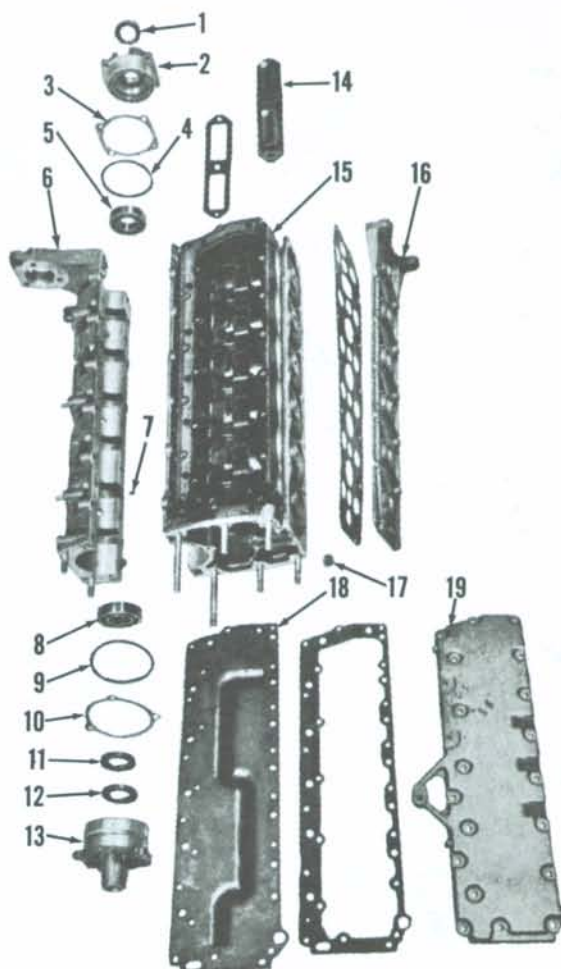

Fig. M7-25—Exploded view of crankcase and associated parts used on six cylinder models. Four cylinder models are similar.
Remove the upper and lower crankcase end caps by using a suitable puller attached to threaded holes in caps. Remove the main bearing locking bolts from front crankcase half, remove the flange bolts; then remove crankcase front half by inserting screwdriver in the recesses provided on side flanges. Use extra care not to spring the parts or to mar the machined, mating surfaces. The crankcase half (6—Fig. M7-25) and cylinder assembly (15) are matched and align bored, and are available only as an assembly.
The recommended crankshaft end play of 0.008-0.012 is controlled by means of shims (3 & 10—Fig. M7-25) placed under each crankcase end cap. Shims are available in thicknesses of 0.002, 0.003, 0.005 and 0.010, and a shim pack of approximately equal thickness should be used under each end cap. To check the end play, temporarily install the crankshaft and end caps on the cylinder block, omitting the sealing rings (4 & 9). Use the removed shims in the trial installation. Install and tighten the end cap retaining screws. Tap the crankshaft each way with a plastic hammer; then measure the clearance between ball bearing inner race and thrust face of crankshaft using a